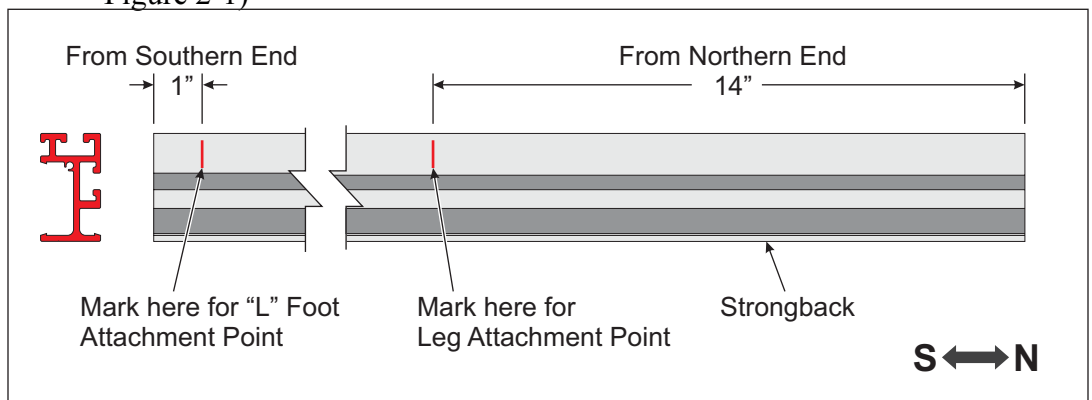

Figure 2-1: Measure and Mark Attachment Points on Strongback
- A. Refer to Figure 2-1 for Strongback, profile orientation.
- C. From the northern end of the Strongback, measure and make a mark 14" from the end - this is where the leg will attach to the Strongback. (See Figure 2-1)